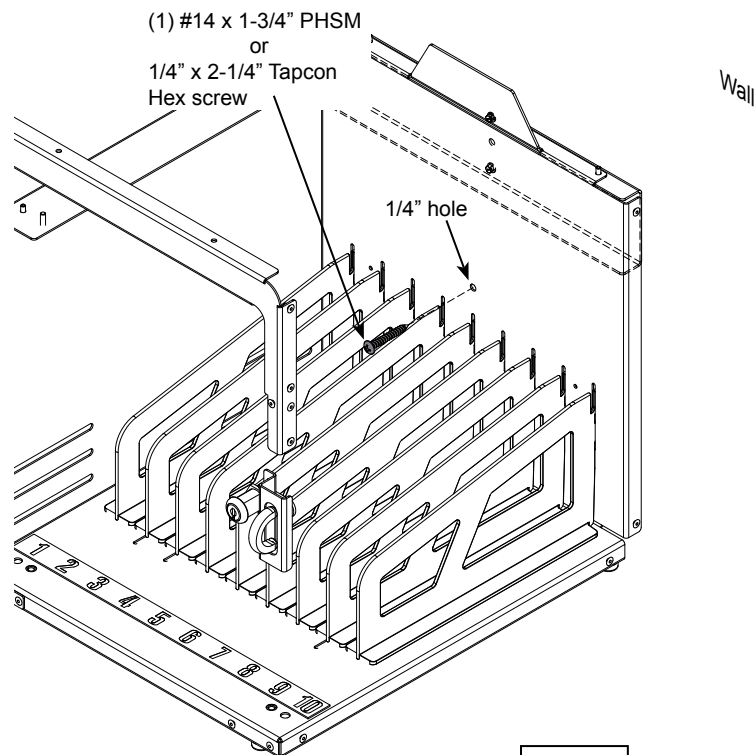

Figure 4
2. Install the 3rd #14 x 1-3/4" PHSM screw through the 1/4" hole in the back panel. **Figure 4.**
2. Using the back panel of the locker as a template, mark the hole location onto the wall. **Figure 4.**